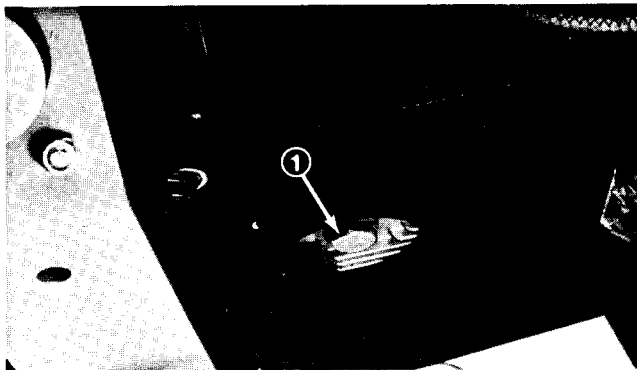

Figure 7
2. Disengage the hood latch and open the hood. Put a drain pan under the engine crankcase drain plug (Fig. 7).